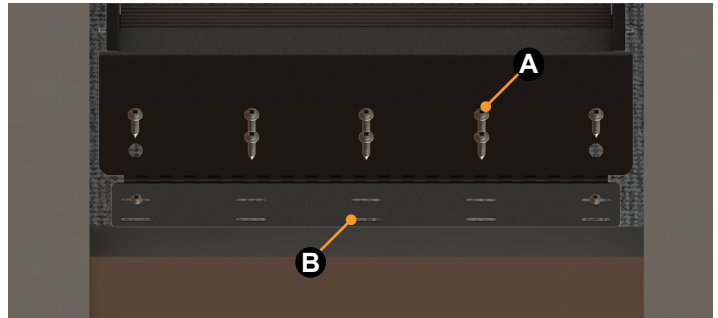

Fig.5
**B.** For laminate flooring, drill two holes straight down via the access holes located in the top of the mounting plate. Insert two #10-4" bolts into the mounting plate through the floor through the backer plate (Fig.2B) and secure with the plain washers, lock washers and then the nuts provided. Refer to Figure 5 for backer plate info.